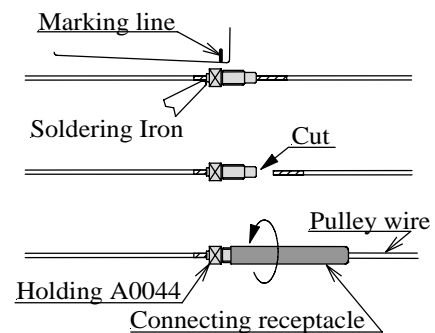

Fig.4-2-5
- i) Place the Adjusting screws (A0044) at the marked line as shown in Fig.4-2-5.